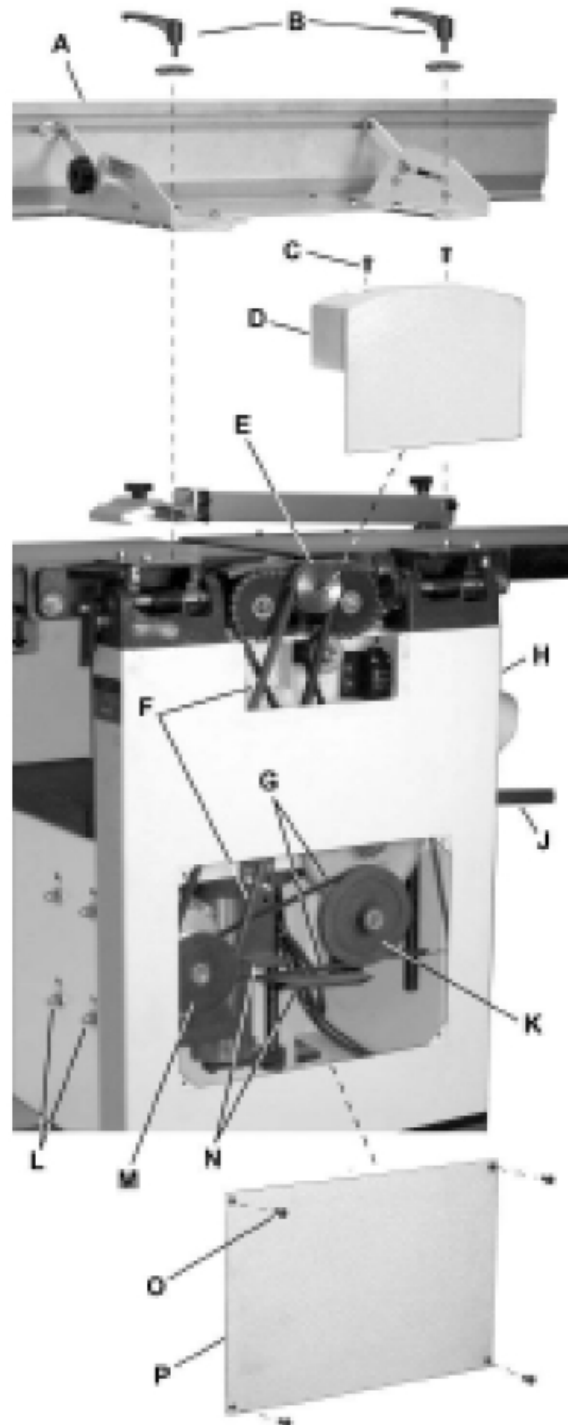

Fig. 16: Belt replacement
Step 2: Remove the thicknesser fence assembly (Pos. A, Fig. 16) by first loosening and removing two lock handle assemblies (Pos. B, Fig. 16). A 4 mm. hex wrench is helpful, but not necessary.
Step 3: Remove two button head socket screws (Pos. C, Fig. 16) and upper back panel (Pos. D, Fig. 16).
Step 4: Remove four button head socket screws (Pos. O, Fig. 16) and lower back panel (Pos. P, Fig. 16).
Step 5: Loosen four motor mount screws (Pos. L, Fig. 16). Lift the motor and rest it in the horizontal slot side of the motor mount opening. This will create a slack in the cutter head drive belt (Pos. F, Fig. 16).
Step 6: Remove the cutter head drive belt (Pos. F, Fig. 16) from around the cutter head pulley (Pos. E, Fig. 16) and motor pulley (Pos. M, Fig. 16).
Step 7: If the feed-roller belt (Pos. K, Fig. 16) is to be replaced, continue. Otherwise proceed to step 11.
Step 8: Place the power feed handle (Pos. J, Fig. 16) in the down (off/disengaged) position, which provides belt slack for the next step.
Step 9: Remove the feed-roller belt (Pos. G, Fig. 16) from around the feed-roller pulley (Pos. K, Fig. 16) and motor pulley (Pos. M, Fig. 16).
Step 10: Loop the new belt around the smaller (inner) motor pulley (Pos. M, Fig. 16) and feed-roller pulley (Pos. K, Fig. 16).
The lower stretch of the feed-roller pulley must be positioned between the beltbrake plates (Pos. N, Fig. 16).
Step 11: Replace the cutter head drive belt (Pos. F, Fig. 16) by looping it around the cutter head pulley (Pos. E, Fig. 16), then the larger (outside) motor pulley (Pos. M, Fig. 16).
Step 12: Slide the motor so the mounting screws (Pos. L, Fig. 16) rest back in the vertical slot openings, then tighten the mounting screws.
Step 13: Replace the lower back panel (Pos. P, Fig. 16) and secure with four button head socket screws (Pos. O, Fig. 16).
Step 14: Replace the upper back panel (Pos. D, Fig. 16) and secure with two button head socket screws (Pos. C, Fig. 16).
Step 15: Replace the jointer fence assembly (Pos. A, Fig. 16) and secure with two lock handle assemblies (Pos. B, Fig. 16).